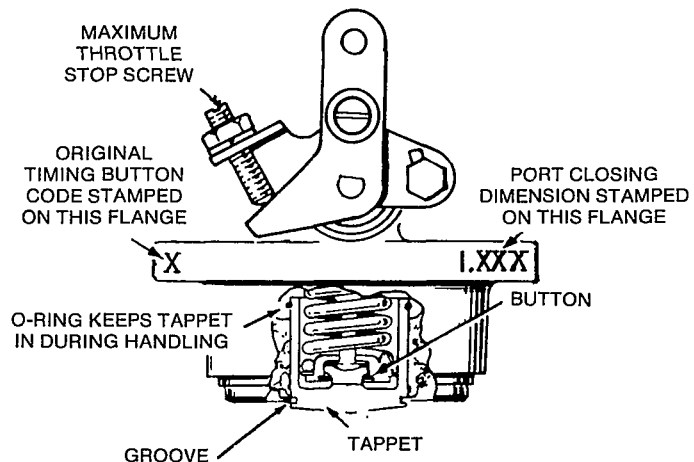

FIGURE 12. TAPPET REMOVAL
- B. Use a pair of channel lock pliers or screwdriver to remove tappet, retaining ring, and timing button from old injection pump (Figure 12). Use number or letter code on timing button to obtain dimension of old timing button from Table 1. This code should be the same as the code number stamped on injection pump (Figure 12).